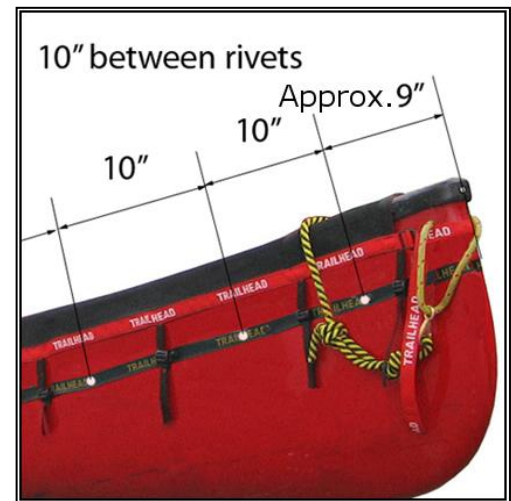

Figure 1
- 3) Continue down the length of the canoe drilling every 10" between the spray deck tightening straps (figure 1). Hold the drill in one hand and pull the webbing tight with the other. As each hole is drilled, insert a rivet and washer to hold the webbing in place. Right handed people will probably find it easier to pull with the left hand and drill with the right.